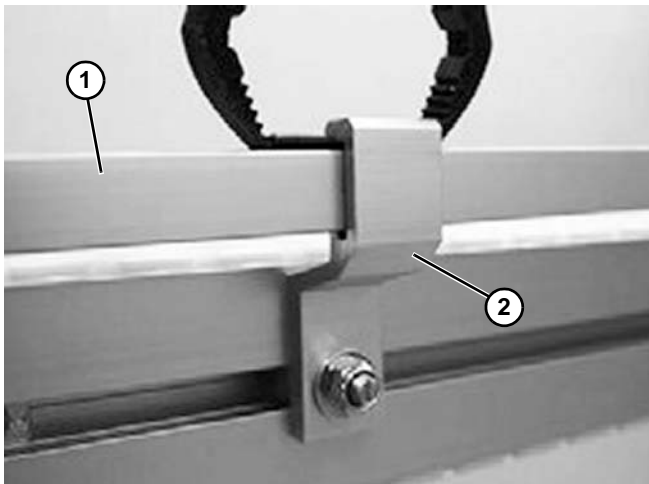

Figure 106
2. Attach the guide rail (Figure 106, item 1) to the bracket (Figure 106, item 2). Clamp the spring pin into the slot between bracket and guide rail to the fixed position.